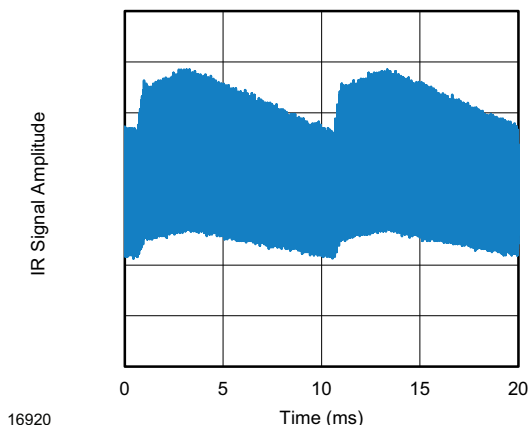

Fig. 13 - IR Disturbance from Fluorescent Lamp With Low Modulation
- Strongly or weakly modulated patterns from fluorescent lamps with electronic ballasts (see Fig. 13 or Fig. 14).